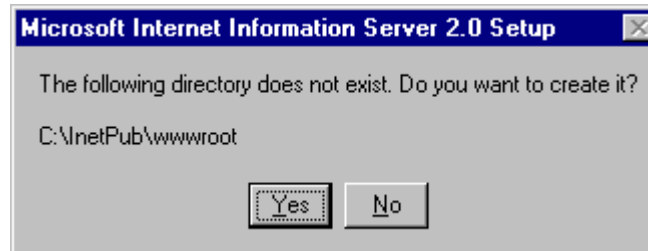

Figure 2.4. Creating the C:\inetpub\wwwroot Directory
6. If the default directory does not exist in your computer, a dialog box will appear informing you of this fact, as shown in **Figure 2.4**. If you wish to create the default directory ("C:\inetpub\wwwroot"), click **Yes**.